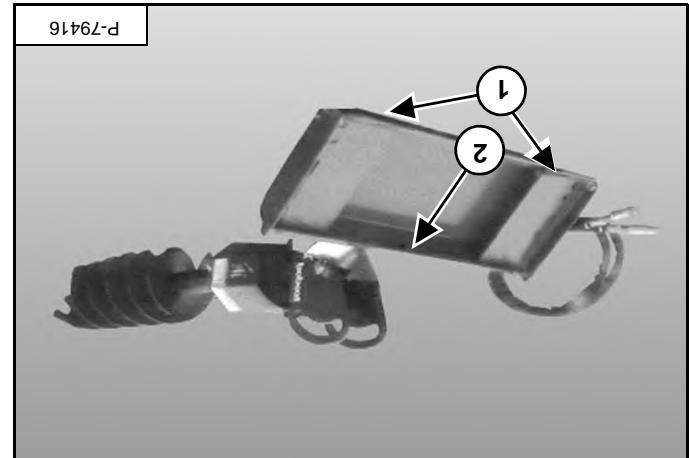

Figure 11
Inspect the Bob-Tach™ wedge mounts (item 1), mounting flange (item 2) [Figure 11] and all welds on the auger for wear and damage each time the auger is removed from the machine.